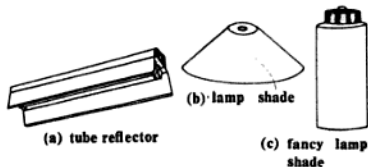

Fig. 2.18 Types of shades and reflectors.
**Reflectors and Shades** The main idea of using these shades or reflectors is to give even illumination and prevent direct glare from the filament. Different types of reflectors are available to suit the different types of lamps and illumination required (Fig. 2.18).